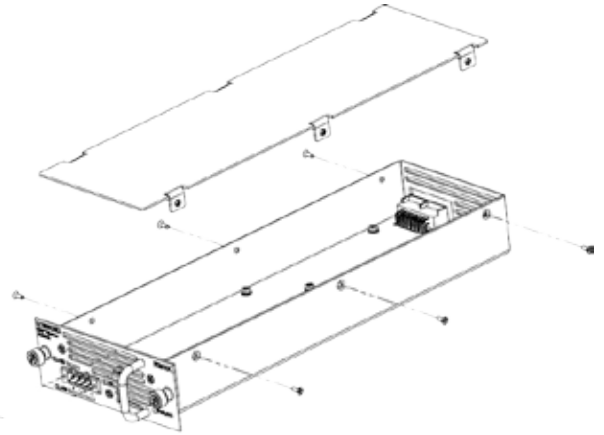

Figure 6. Removing PSM-DC Top Panel
- Step 2:** Remove PSM-DC top panel by unscrewing the three screws on each side panel, as shown in Figure 6.